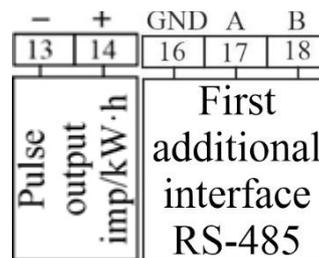

Figure 3. Numbering of contacts of meter's connectors
6.5. The circuit for connecting the main test output shown in Figure 3.